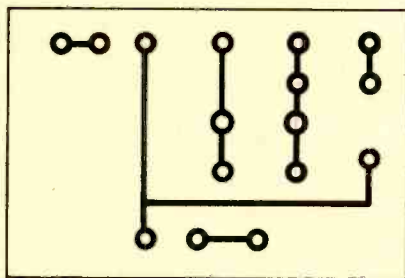
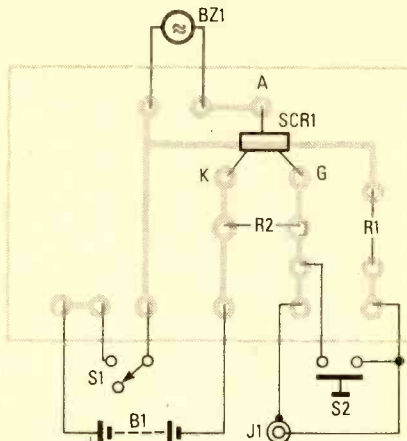

Fig. 3. Although not absolutely necessary, you can use this foil pattern to make a circuit board for the alarm.
Fig. 4. If you decide to make the project's printed-circuit board, you can use this as a guide for mounting the parts.
**Construction.** Most of the components are mounted on a small PC board (see Fig. 3). An experimenter's IC perfboard from a local electronics store can be used if it is inconvenient to produce a PC board. The only point of caution during assembly is to be sure that the SCR is connected properly. Use Fig. 4 as a guide when installing the components.